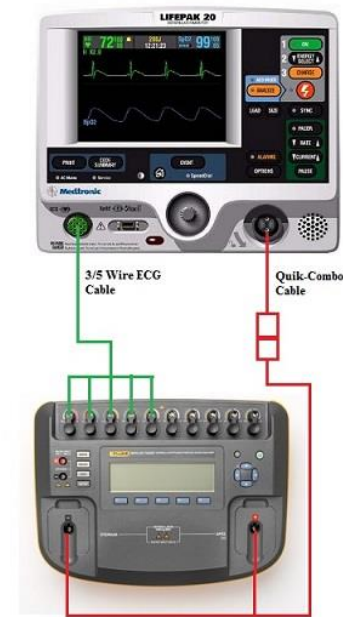

Figure 1.16: Quik-Combo Defibrillator Energy and Charge Time Test Setup
1. Establish the setup as shown in Figure 1.16.